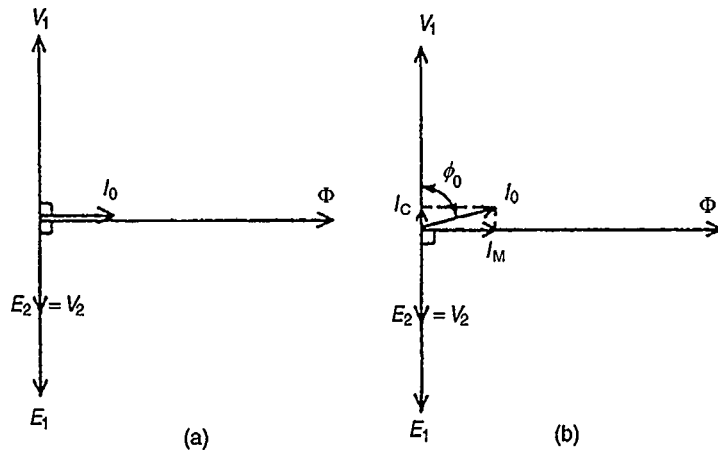

Figure 21.2
the primary winding takes a small no-load current I_0 and since, with losses neglected, the primary winding is a pure inductor, this current lags the applied voltage V_1 by 90° . In the phasor diagram assuming no losses, shown in Fig. 21.2(a), current I_0 produces the flux and is drawn in phase with the flux. The primary induced e.m.f. E_1 is in phase opposition to V_1 (by Lenz's law) and is shown 180° out of phase with V_1 and equal in magnitude. The secondary induced e.m.f. is shown for a 2:1 turns ratio transformer.
A no-load phasor diagram for a practical transformer is shown in Fig. 21.2(b). If current flows then losses will occur. When losses are considered then the no-load current I_0 is the phasor sum of two components — (i) I_M , the magnetising component, in phase with the flux, and (ii) I_C , the core loss component (supplying the hysteresis and eddy current losses). From Fig. 21.2(b):
- (c) From the right-angled triangle in Fig. 21.2(b) and using Pythagoras' theorem, $I_0^2 = I_c^2 + I_M^2$ from which, magnetising current,